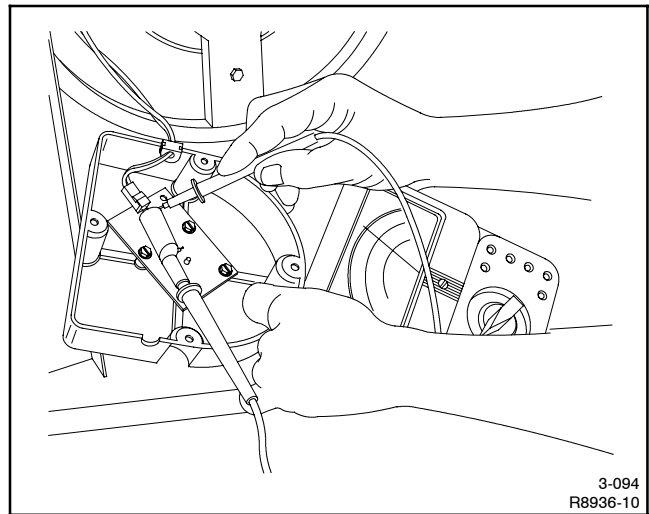

Figure 3-5 Checking LED Board
5. With the generator set running, approximately 1–2 volts DC should be observed at 3B (+) and 5B (–) at the LED board. See Figure 3-5. Shine the flashlight on the photo transistor. The DC voltage reading should drop, showing the AVR is functioning. If voltages are not observed, refer to the AVR test. Stop the generator set.